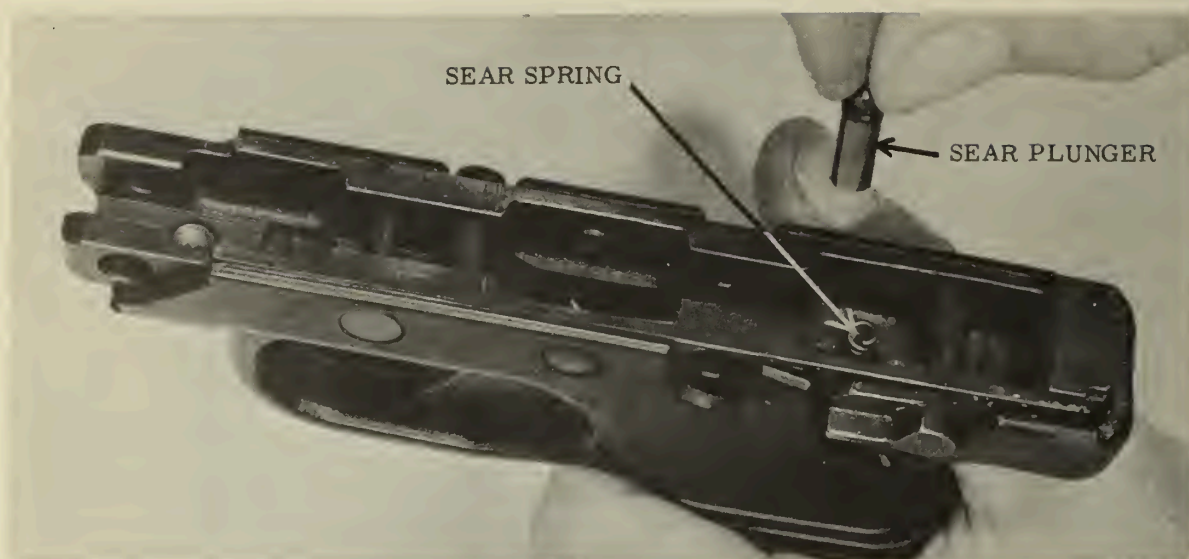

Figure 37. --Removing the Sear Plunger and Sear Spring.
- 37.) (c) Remove the sear plunger and sear spring. (See fig. 37.)